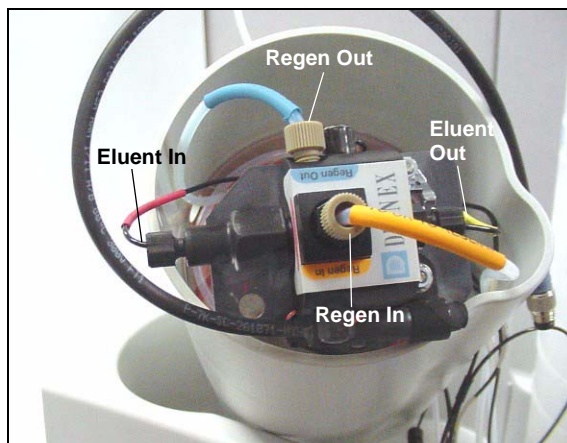

Figure B-34. Plumbed CR-TC
4. With the CR-TC oriented as shown in Figure B-34, connect each line to the corresponding port on the CR-TC.